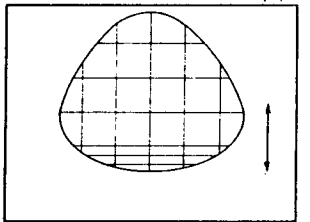

Fig. 4
- Adjust the Vertical Symmetry to obtain symmetrical scanning between upper and lower picture (fig. 4).